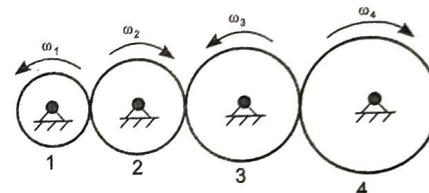

Fig. 4.37
- The intermediate gears transfer that torque and may reduce or increase it according to the gear ratios involved. The transfer gear passes the modified torque onto the next component in the machine, whether it is a wheel, a winch, a counter or anything that needs power. Fig. 4.37 shows a simple gear train in which there is only one gear for each axis.
For the simple gear trains shown in Fig. 4.37, we have